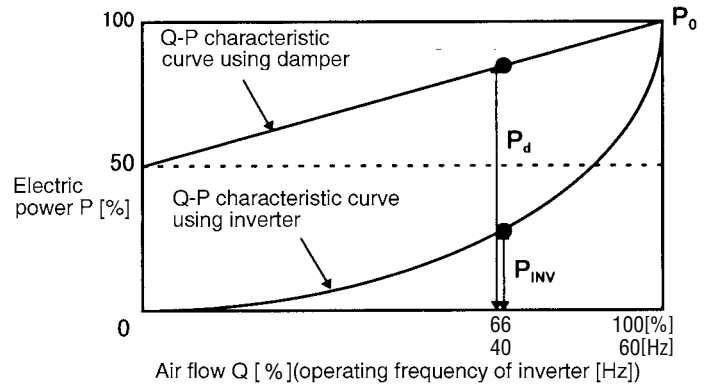

Fig.1 Q-P characteristic curve
- In accordance with general output characteristics (Q-P curve ) in Fig.1